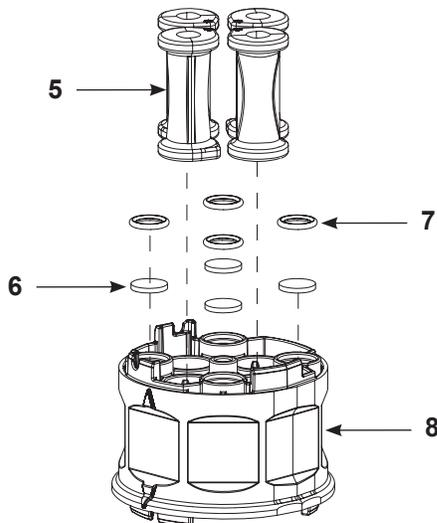

Figure 22 Assemble the Pinch Valve Housing
2. See Figure 22. Assemble pinch valves (5), filter discs (6), and O-rings (7) into pinch valve housing (8). Refer to *Pinch Valve Replacement* on page 24 for assembly procedure.